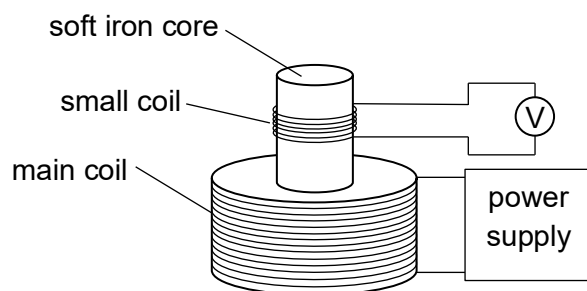

Fig. 5.3
- (b) The ring is now removed, and a small coil is placed over the soft iron core, as shown in Fig. 5.3.